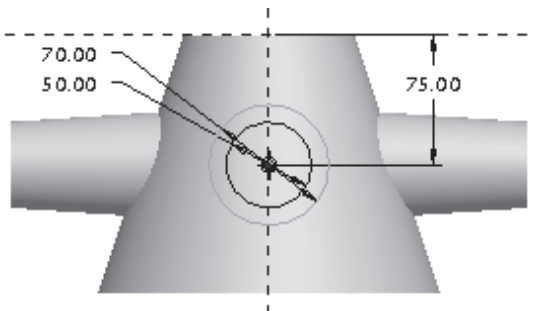

Figure 14-77 Sketch of the fourth blend feature
- e. Create the fourth feature which is also a blend feature, refer to Figures 14-77 and 14-78.
6. Sketch the first circle of diameter 50 and dimension it. Toggle the sketch and then draw the second circle of diameter 70, as shown in Figure 14-77.